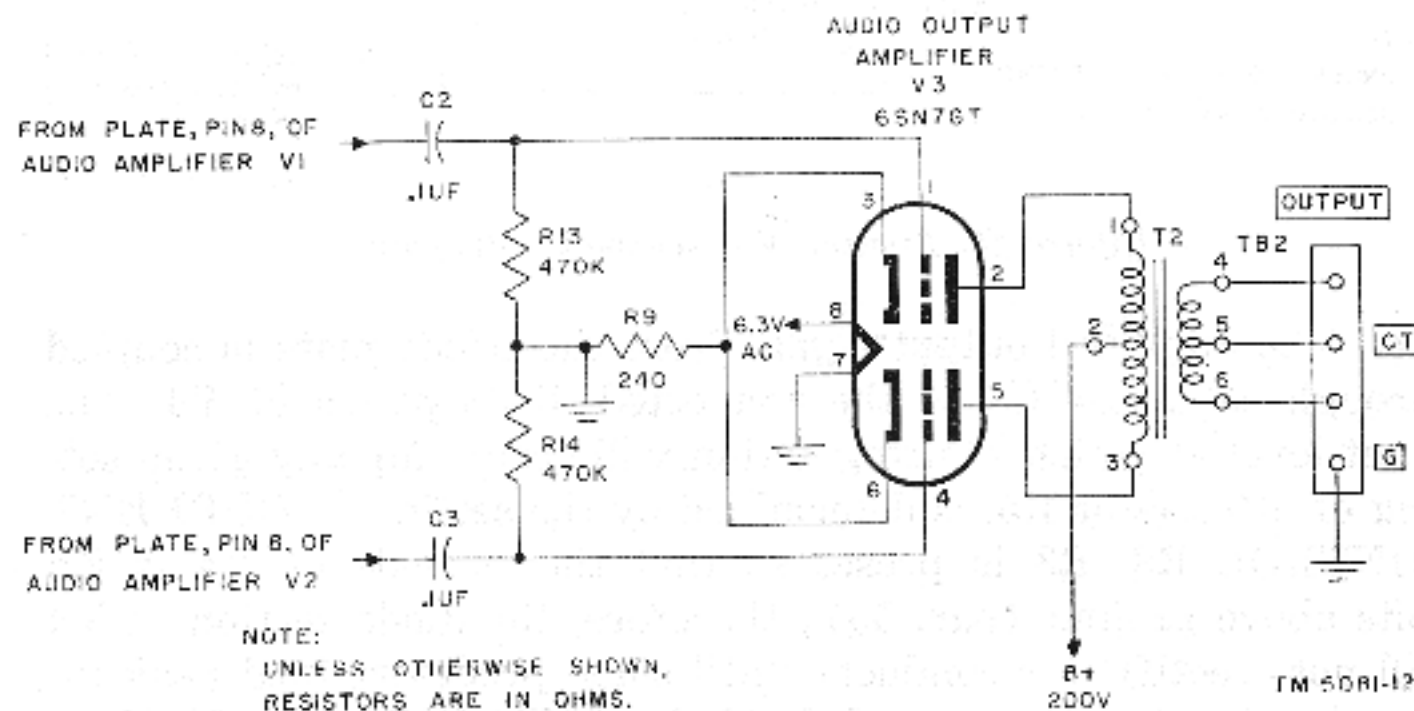

Figure 12. Audio output amplifier V3, schematic diagram.
40. Audio Output Amplifier V3 (fig. 12)